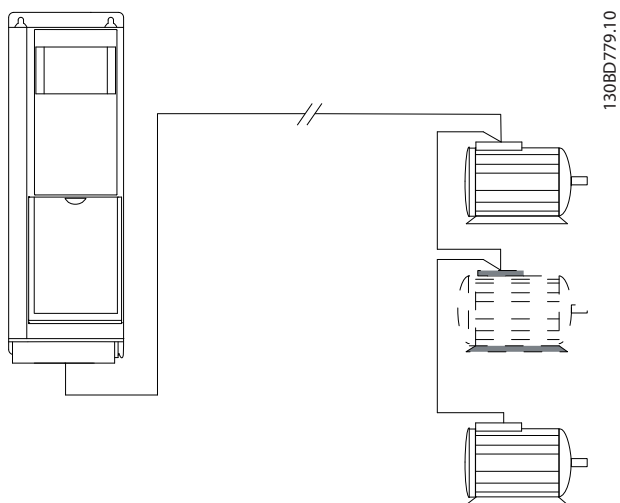

Figure 9.55 Long Cables in Series Connection
- For long cables without parallel connection, see Figure 9.55.